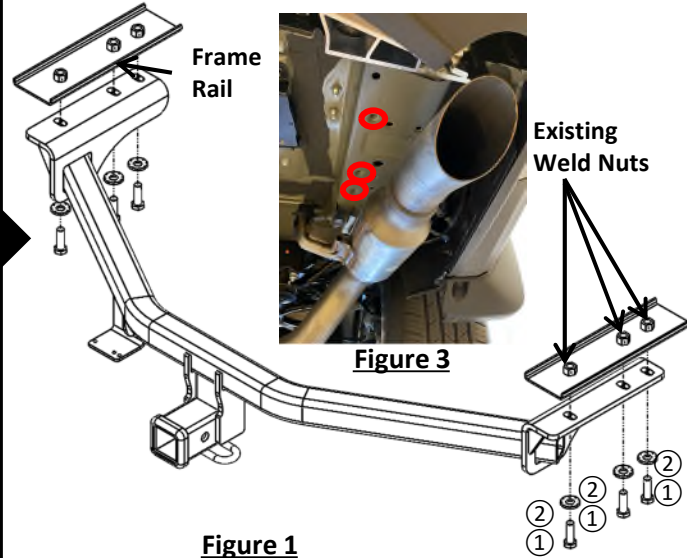

Figure 1
4. Install hitch – **NOTE: Use wire brush to clean the weldnuts if needed.** Raise hitch into position and align bracket holes with weld nuts in frame rail. Loosely install M12 bolts and conical washers to hitch, see **Figure 1**.